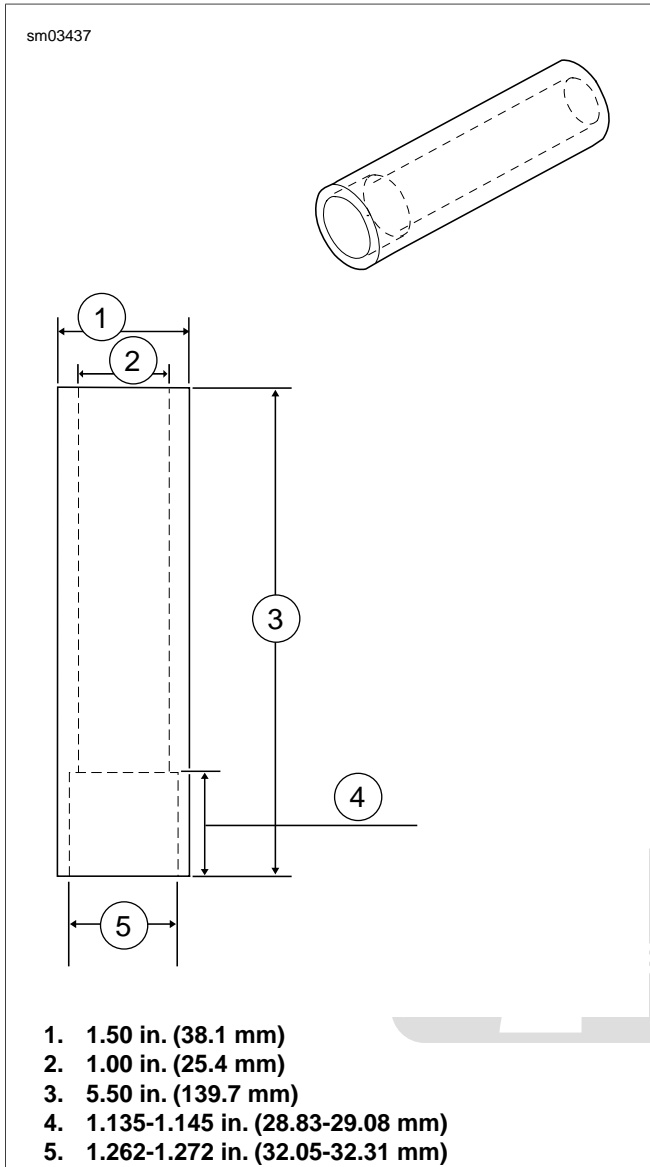

Figure 3-130. Pinion Shaft Inner Race Installation Tool
- For necessary dimensions for constructing a press on tool for the pinion bearing inner race, see Figure 3-130.